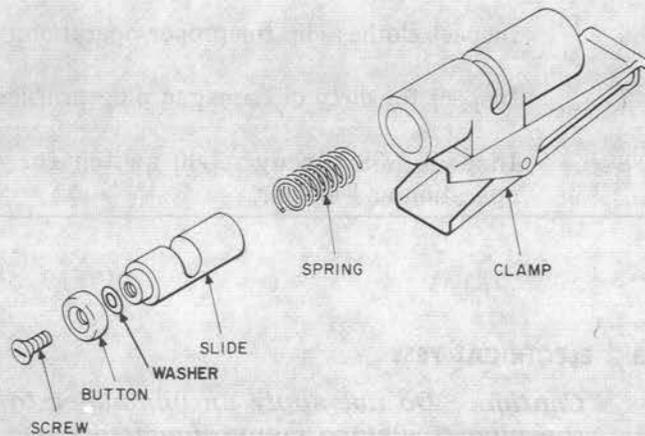

Fig. 6—Clothes Clip—Exploded View
5.07 *Clothes Clip:* The clothes clip may be slipped up and down the cord by squeezing the ends of the clip together. To replace the clothes clip, remove the associated screw using the KS-2348 cord repair screwdriver and remove the clothes clip. Substitute the new clothes clip and install in the reverse order or removal. (See Fig. 6.)